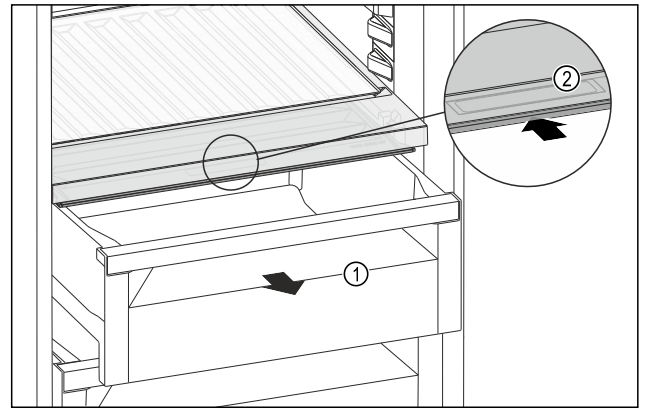

Fig. 241
- ▶ Pull out the drawer Fig. 241 (1).
- ▶ Grasp the recessed grip Fig. 241 (2) on the compartment lid and push the compartment lid backwards at the same time.